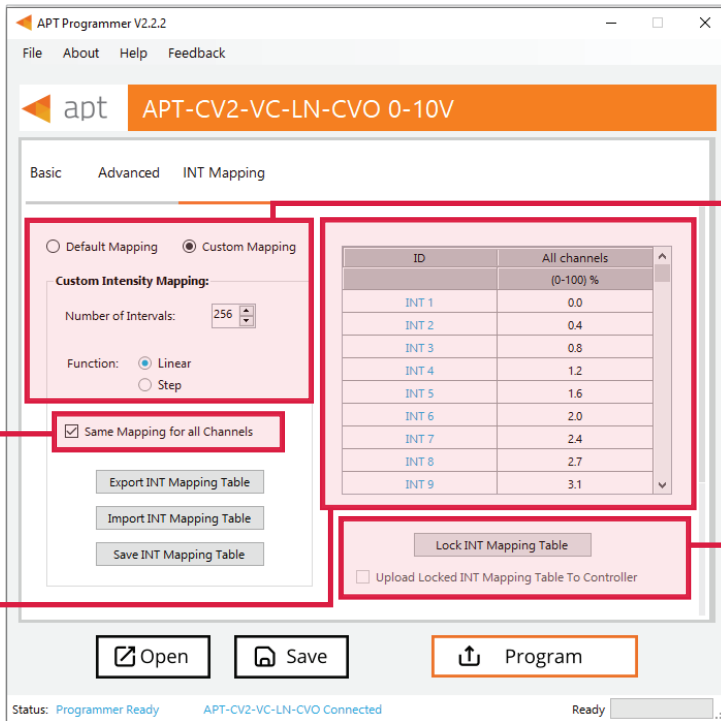

Figure 11: Programmer Interface Window - INT Mapping Tab
Click **Lock CCT Mapping Table** to prevent changes from being made to the mapping table, this will also update the graph (shown in Figure 11).
*Tip: Scroll to the bottom of the window to see the graph (Figure 11) of the current mapping configuration.*